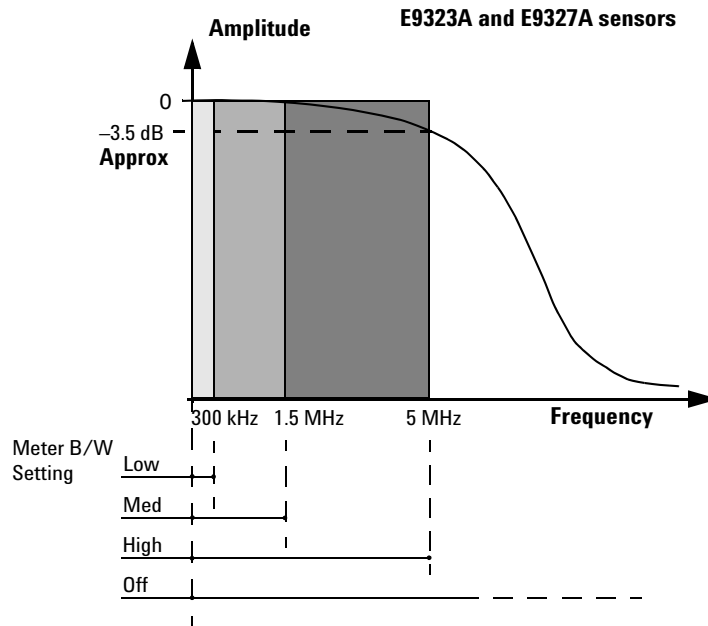

Figure 4-98 Bandwidth Filter Shapes
* The Low, Medium, and High settings provide flat filter responses with very sharp cutoff points by applying digital signal processing techniques. The Off setting removes all signal conditioning. Refer to Figure 4-98.
Figure 4-98 shows the filter shapes associated with the E9323A and E9327A power sensors